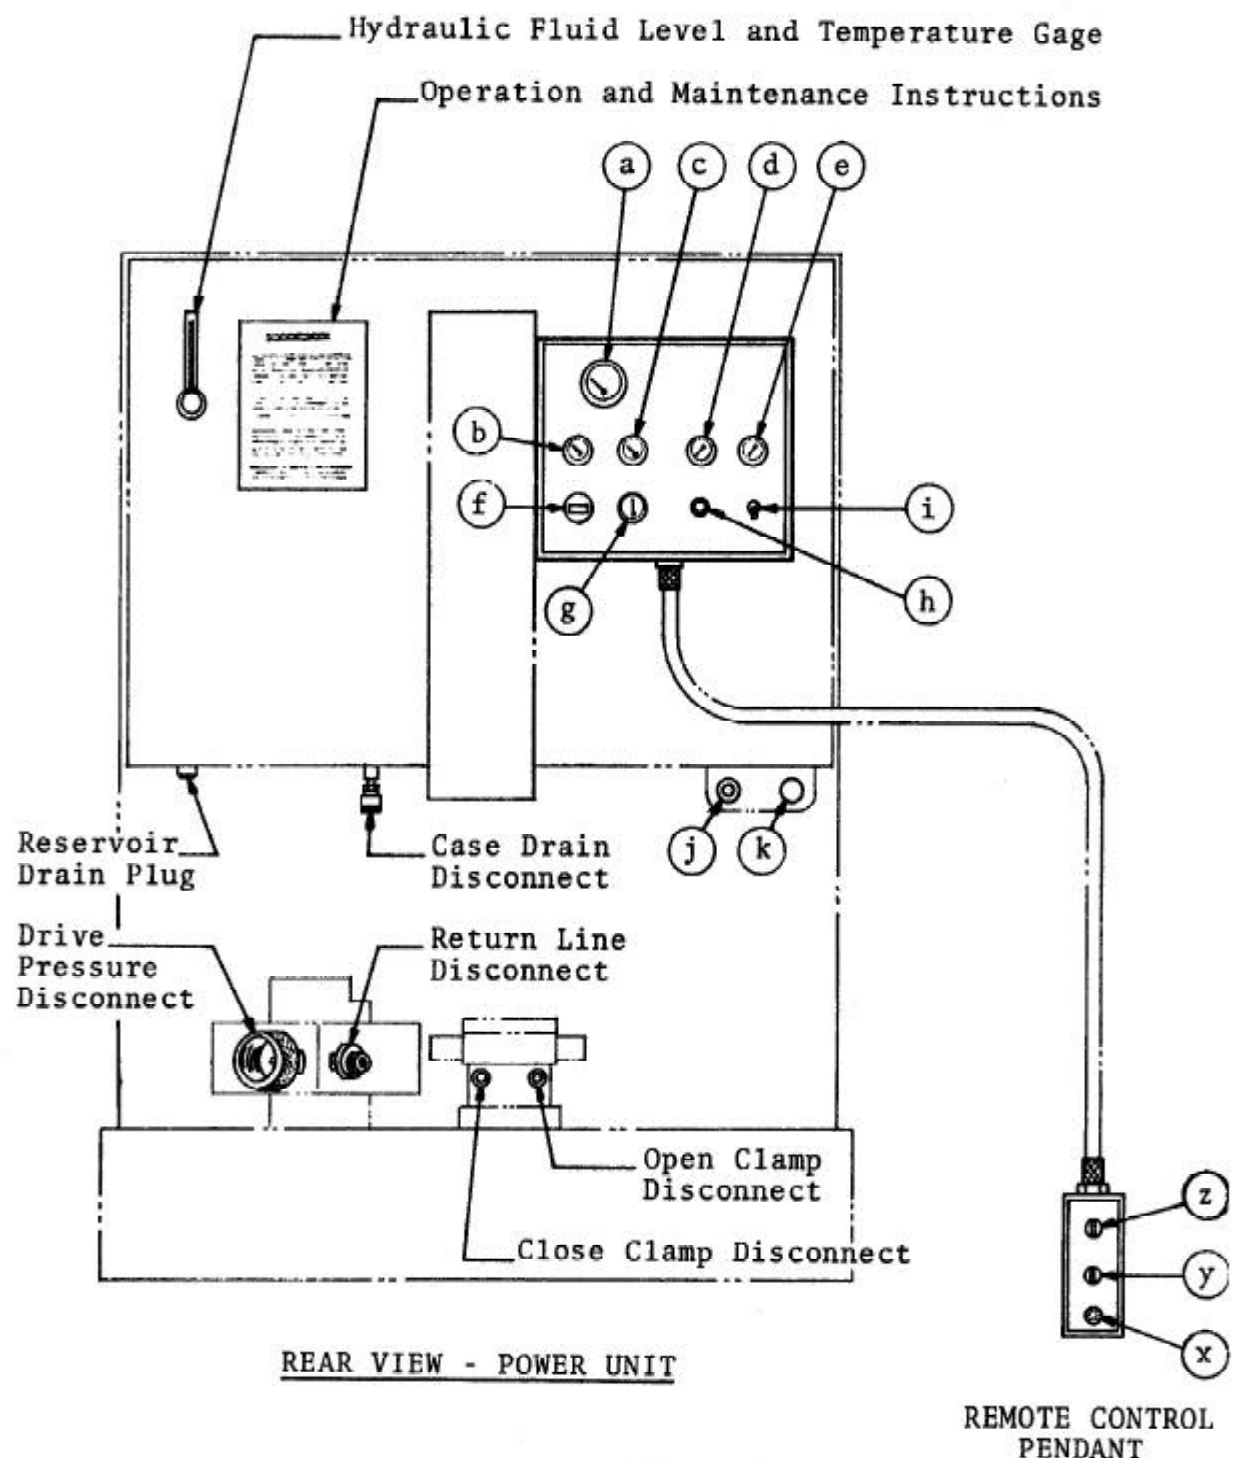

Fig. 4
B. CONTROL PANEL (Fig. 4)
2. The frequency can be varied from 460 to 1600 vibrations per minute by changing engine speed. Engine speed is changed with the ENGINE THROTTLE (Fig. 4) at the control panel. Vibrator frequency corresponds to engine speed according to the table shown below: